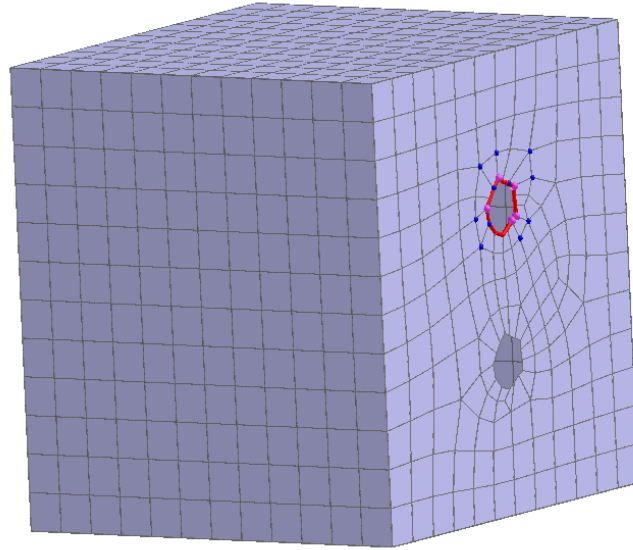

Figure A.13 Pick nodes to create a seam.
- Pick the nodes until you see a circular seam following the edge of the hole as shown in Figure A.13.